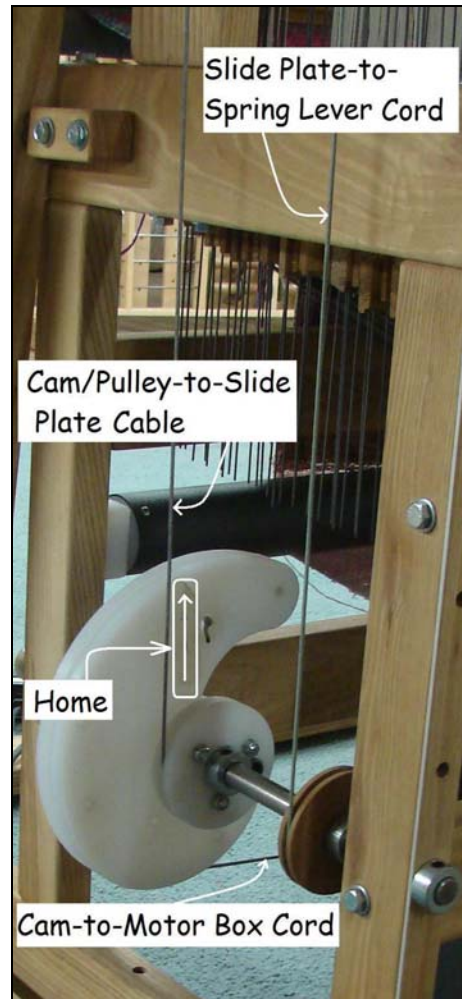

Fig 5 – Cables and Home Position
Installing the Cam-Pulley Assembly and Cables (Fig. 5)
4.) Route the Cam/Pulley-to-Dobby-Slide-Plate Cable around and under the Pulley, as seen in Figure 5, then up the outside of the loom, to the Dobby Slide Plate (or Dobby Arm). If you have a Slide Plate, slip the Cable end and the quicklink through the hole in the bottom plate and connect the Cable end to the lower eyebolt on the Slide Plate. If you have a Dobby Arm, the Cable end will have a small barrel fitting in place of the quicklink. Connect this as you would the Turnbuckle-Dobby Arm Cable.
SETTING HOME POSITION (See Fig. 5) - Before you use the E-Lift II you must set the "home", or neutral, position: